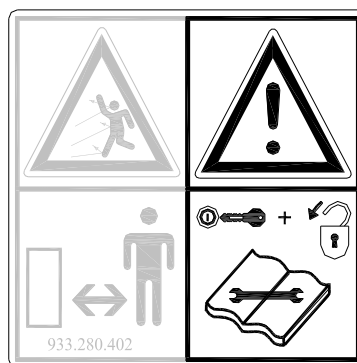
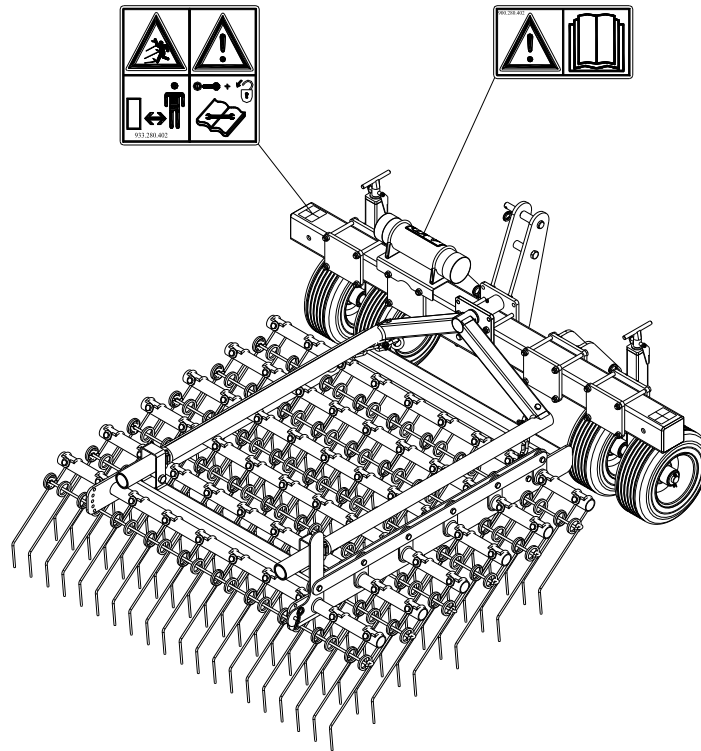

Figure 2
Figure 5
Always switch off the tractor motor and take the tractor's key out off the ignition in case of maintenance, adjusting and repairs (Figure 2).
Safety stickers (Figure 2, 3 and 4) with an identical meaning are attached to the sideboards (Figure 5) of the Verti-Rake. These safety stickers must always be clearly visible and legible and must be replaced in case they have become damaged.
7. Location of the safety stickers (Figure 5)